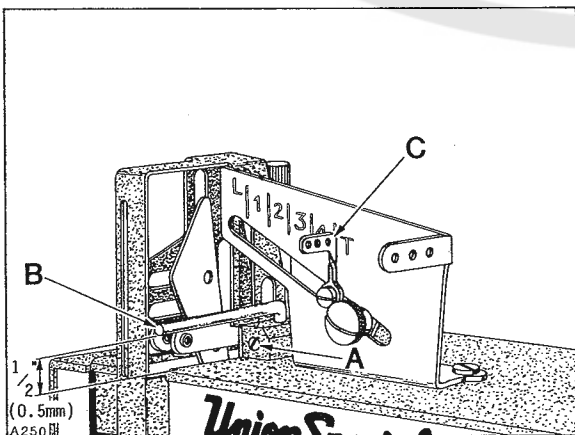

Fig. 29
Adjustments can be made by bringing needle bar up, loosen screw (C) slightly, reposition eyelet (A) up or down as required. TORQUE screw (C) to 10 in-lbs. (11.5 cm/kg). Needle thread cam can be adjusted forward or rearward as required by loosening needle thread cam mounting screw (D) and retighten screw. Loosen screw (A, Fig. 29) and position strike-off wire (B) 1/2 inch (0.5mm) from top surface of top cover to underside of strike-off wire. With needle bar at BOTTOM of stroke and Thread Control Assembly adjustable eyelet (C) set at "T". Apply necessary tension to both needle and looper thread and start to sew. Looper thread tension should be light. Adjust needle thread tension to pull up smallest needle loop as required. At this point a tight stitch will be achieved. Without changing needle thread tension move Thread Control Assembly adjustable eyelet to "L". This will produce a loose seam with longer needle loops.
Needle thread take-up cam wire (C) should be set to barely contact needle threads with needle bar at top of stroke. Adjustment can be made by loosening cam mounting screw (E), reposition cam forward or rearward as required and retighten screw. Auxiliary strike-off (F) should be set so needle threads contact strike-off when needle bar is at BOTTOM of stroke with Thread Control Assembly adjustable eyelet (C, Fig. 29) set at "T". Loosen screw (A) and position strike-off (B) as specified and retighten screw. Thread tension on needle thread should be just enough to pull up uniform stitches. Thread tension applied on looper thread should be just enough to steady thread.